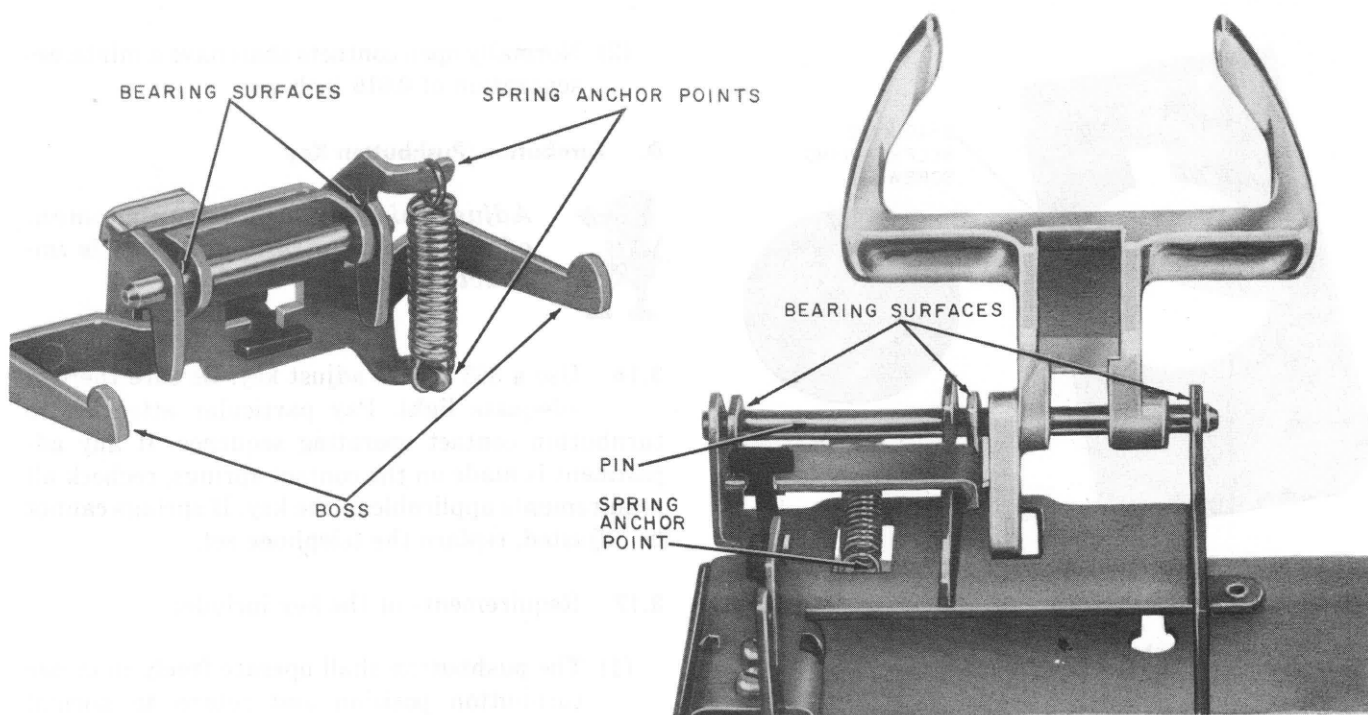

Fig. 11—Operating Bracket Switch Assemblies
3.10 To eliminate any binding or squeaking, clean bosses on operating bracket arms, spring anchor points, operating brackets, shaft bearing points, and pins with a KS-2423 cloth moistened with KS-7860 petroleum spirits. Lubricate bearing surfaces (Fig. 11) with a No. 2 or softer graphite pencil.